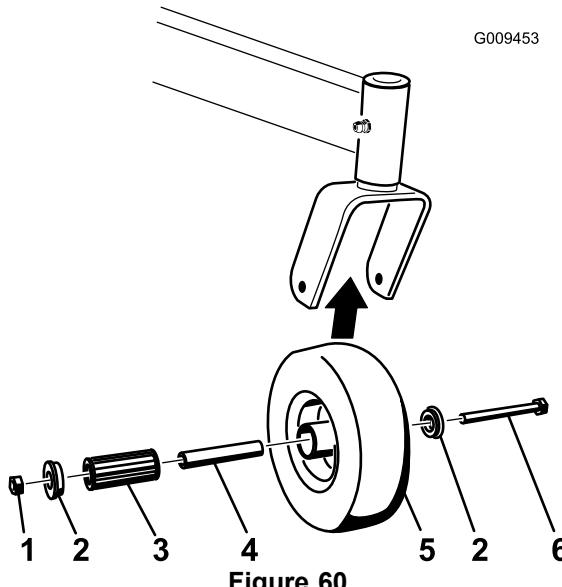

Figure 60
1. Remove the locknut and wheel bolt holding the caster wheel to the caster fork (Figure 60).
2. Remove one bushing, then pull the spanner bushing and roller bearing out of the wheel hub (Figure 60).
3. Remove the other bushing from the wheel hub, and clean any grease and dirt from the wheel hub (Figure 60).
Note: Replace any defective or worn parts (Figure 60).
5. Place one bushing into the wheel hub (Figure 60).
6. Grease the roller bearing and spanner bushing, and slide them into the wheel hub (Figure 60).
7. Place the second bushing into the wheel hub (Figure 60).
8. Install the caster wheel into the caster fork and secure it with the wheel bolt and locknut (Figure 60).
9. Tighten the locknut until the spanner bushing bottoms against the inside of the caster forks (Figure 60).